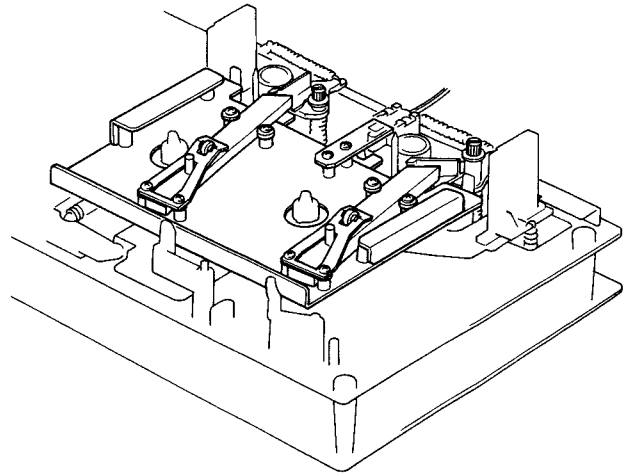

Fig. 4.9
Remove Head Mount Base Ass'y referring to item 2.30. Refer to Figs. 4.9 and 4.10.